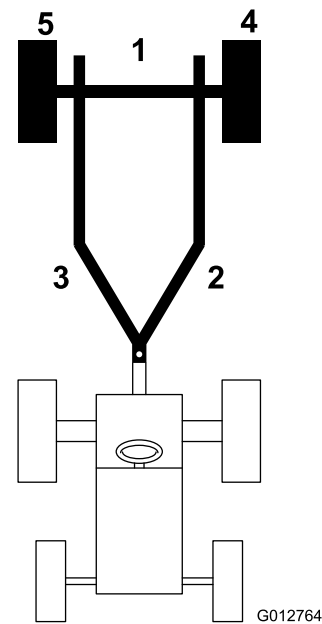

Figure 19
3. Push the control levers downward to lower the mowers with frame in motion to eliminate possibility of spinning tractor drive wheels on the turf causing turf damage. Use the diagram on top of control panel as a guide to lowering mowers (Figure 19).